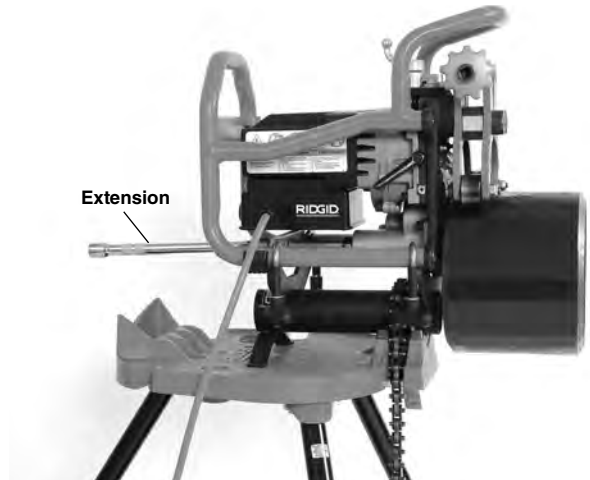

Figure 10 – Fixed Beveller, Pipe under 12" Long, under 50 Pounds
8. Install the supplied 10" long ½" drive extension in the Beveller drive shaft (*see Figure 10*).
9. When beveling pipe less than 12" (300 mm) long and less than 50 pounds (22 kg), as long as the beveller and Portable TRISTAND Pipe Vise are stable and secure, no pipe stand is needed to support the pipe. Pipe is placed directly on the drive roll and secured with the guide rolls (*Figure 10*).
Confirm that the beveller, pipe stands and pipe have been properly set up (*see Figures 10, 12 and 13*).